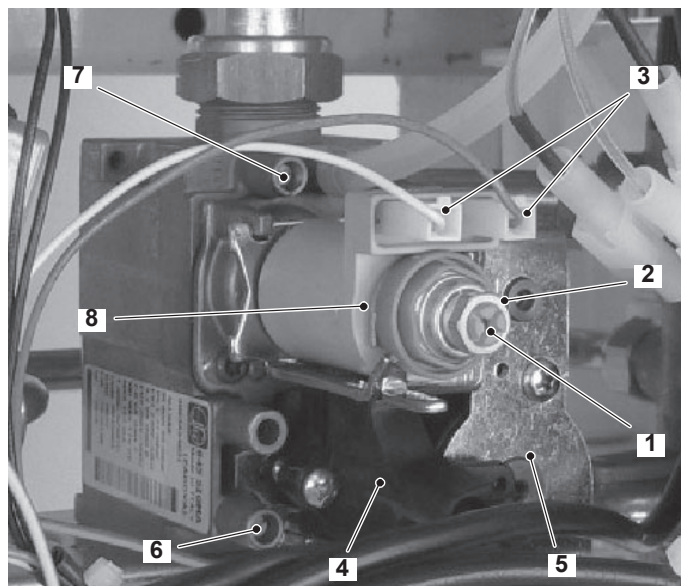

Figure 9.2
### 9.2 Nomenclature of the parts - (Figure 9.2)
- 2 Open the gas valve inlet pressure test point (6 in Figure 9.2) at the valve input, connect a suitable pressure gauge and check the gas pressure of the supply network.
- 4 Open the gas valve outlet pressure test point (7 in Figure 9.2) and connect the gauge;
- 8 Rotate the maximum gas pressure adjustment (2 in Figure 9.2) until you obtain the required pressure (by rotating clockwise the pressure increases).
- 9 Turn the boiler off and disconnect one of the two connectors (3 in Figure 9.2).
- 10 Start the boiler and rotate the minimum gas pressure adjustment (1 in Figure 9.2) until you obtain the required pressure (by rotating clockwise the pressure increases).